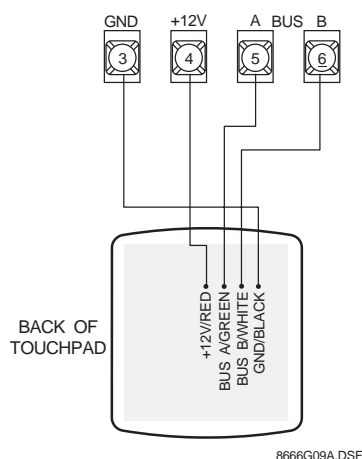

Figure 4. Wiring the Touchpad to Panel Terminals
- Connect the touchpad wiring to the panel terminals as shown in Figure 4.